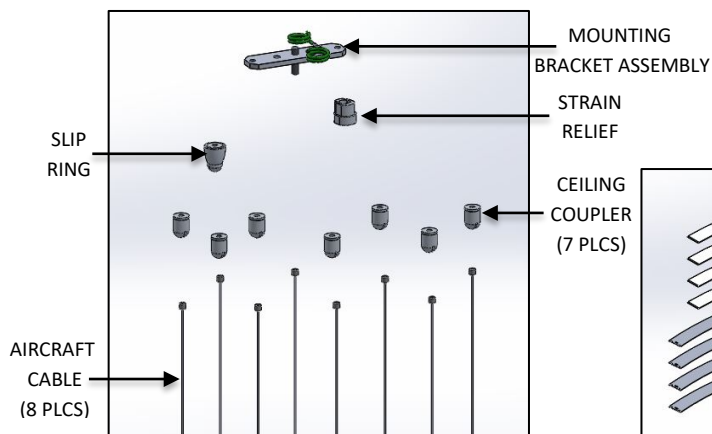
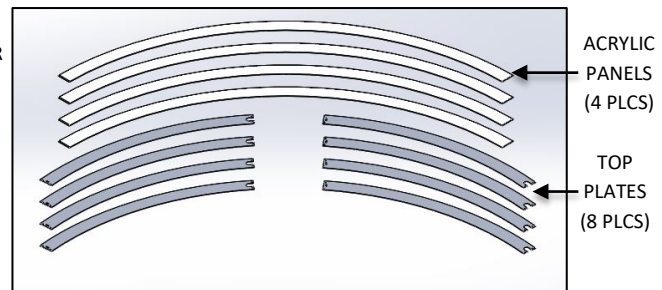

FIG. 5 - MOUNTING KIT CONTENTS
FIG. 6 - ACRYLIC PANELS & TOP PLATES
- b. MOUNTING KIT (as shown in FIG. 5)
- iii. SEVEN (7) CEILING COUPLER (CC)
- iv. EIGHT (8) AIRCRAFT CABLE
4. FOUR (4) ACRYLIC PANELS AND EIGHT (8) TOP PLATES (shown in FIG. 6).